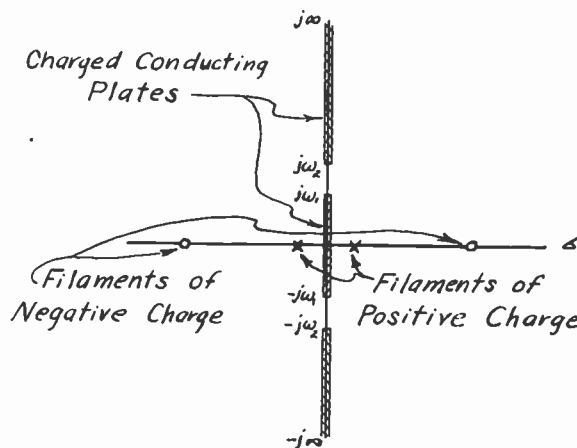

Fig. 8—Six-pole RC filter potential problem.
The potential problem for synthesis of a 6-pole (Case B) RC filter is shown in Fig. 8. In accordance with (5) and (6), the stop-band plates have two units of positive charge each while the pass-band plate has four units of negative charge. There are also two units of positive and negative charge in filaments on the real axis. These filaments must be located so as to give a maximum number of saddle points on the real axis
The cases which generally give only approximately equal-ripple bands are those where part of the charge of a given sign is distributed and part of the charge of that sign is already quantized. The problem shown in Fig. 8 is of this type.